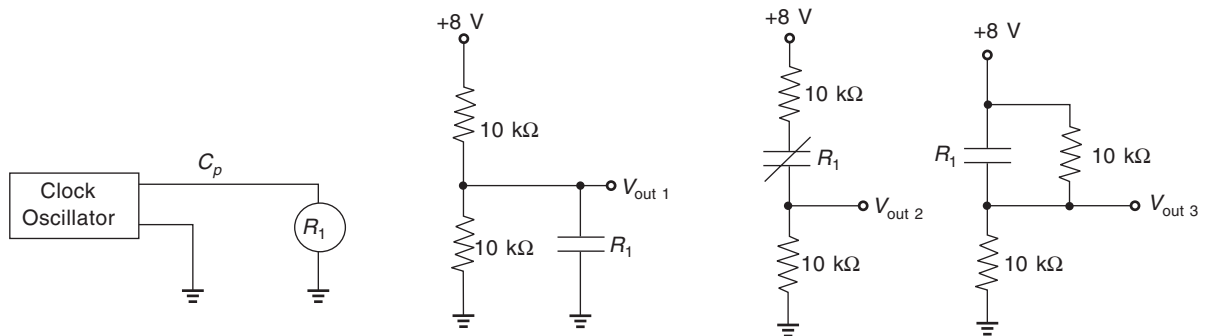

Fig. 7.58 For Problem 19
19. Draw the timing diagram for V_{out1} , V_{out2} , and V_{out3} in the given Fig. 7.58.